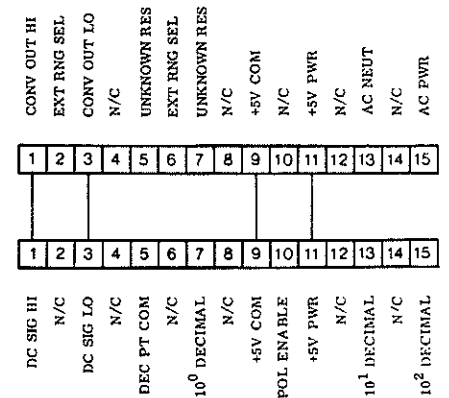

Figure 3. Connector Diagram for RM-350/OHM/115 or 230
3. WIRING. Figure 3 provides wiring information for the connectors. Connect contacts 1, 3, 9 and 11 of the upper connector to the corresponding contacts on the lower connector. Connect the unknown resistance between contacts 5 and 7 of the upper connector. To display a decimal point, jumper between contact 5 and contact 7, 13 or 15 on the lower connector, depending upon which decimal point is to be displayed. See below.